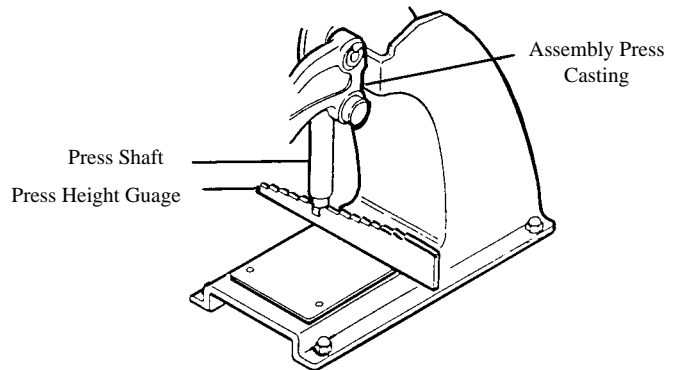

Figure 2.
1. Place the shut height gauge, #3436-1A, across the base of the assembly press. Lower the handle of the press until the handle casting makes contact with the press casting. (See Figure 2)